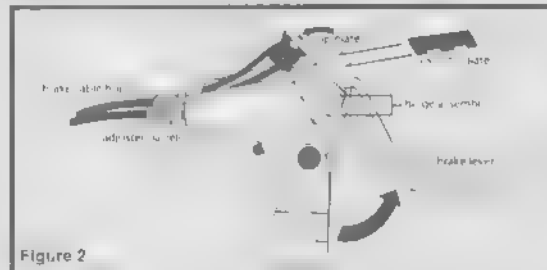

Figure 2
- 4 Insert the brake cable around the lower cable roller assembly (Figure 2). Reassemble the lower cable roller assembly with the top plate. Be sure to push the lower cable assembly up away from the hinge assembly. Make sure the cable roller is locked into place with the top plate.